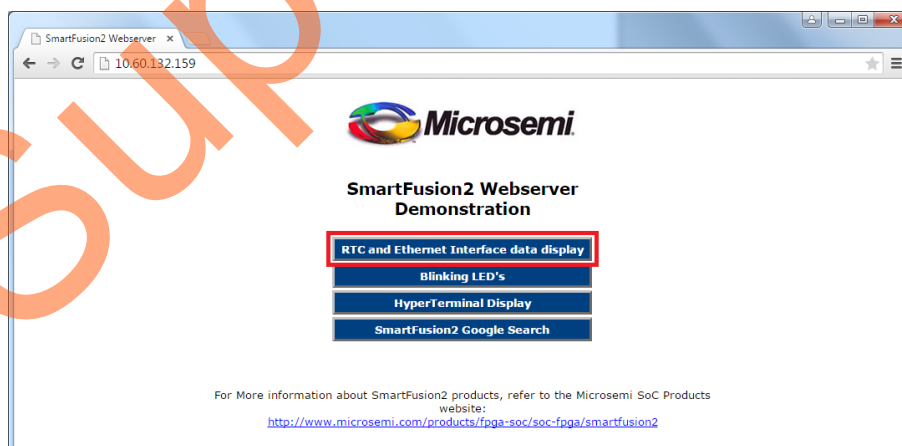

Figure 13 • Main Menu of Webserver
12. Enter the IP address displayed on the HyperTerminal in the address bar of the browser (Mozilla Firefox) to run the Webserver. The main menu of the Webserver is shown in Figure 13.